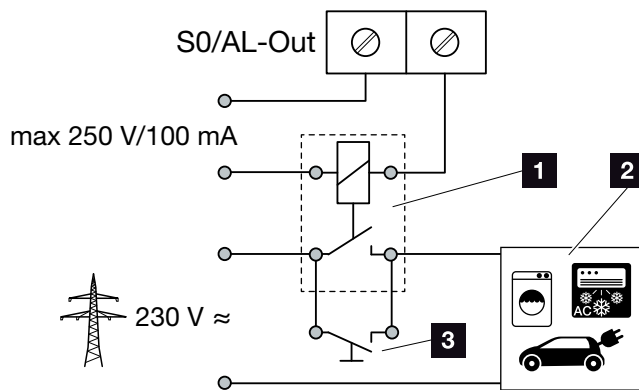

Fig. 54: Electrical connection for self-consumption
1. Properly connect the external load relay to the S0/AL-Out terminal.  **Fig. 54**